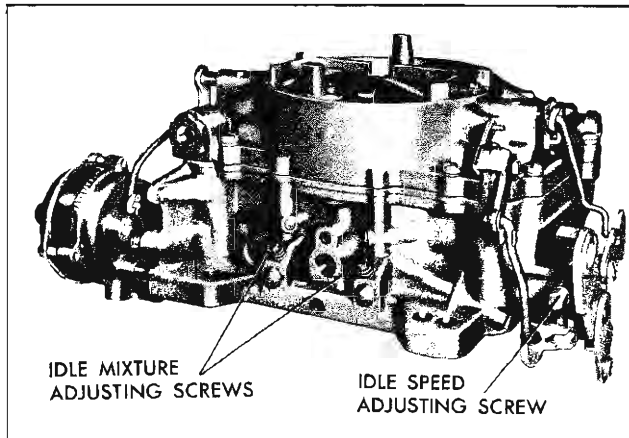

Fig. 67—Idle Speed and Mixture Adjustments
3. Adjust idle speed adjustment screw (fig. 67) to give proper idle speed shown in tune-up chart.